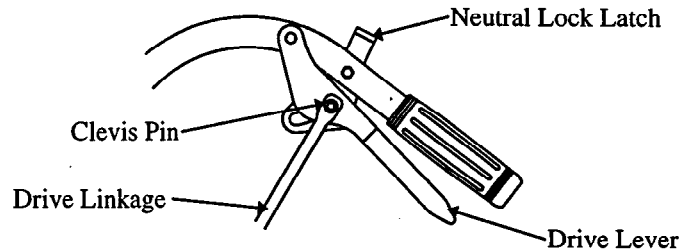

FIG. 8
- b) Insert clevis pin from bolt bag through drive linkage, lever and slot in the neutral lock latches (See Figure 8). Make proper adjustments before adding hairpins.